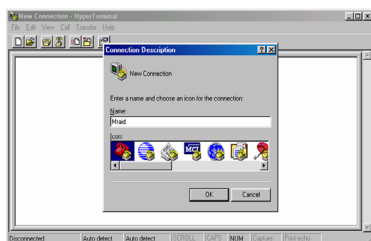

Figure 3.2-3
Step 3. Enter a name you prefer and then click "OK". (Figure 3.2-3)